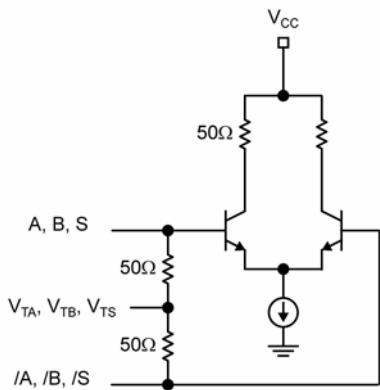

Figure 1a. Simplified Differential Input Stage
6. Due to the internal termination (see Figure 1a) the input current depends on the applied voltages at A, /A and V_{TA} inputs, the B, /B and V_{TB} inputs or the S, /S and V_{TS} inputs. Do not apply a combination of voltages that causes the input current to exceed the maximum limit.